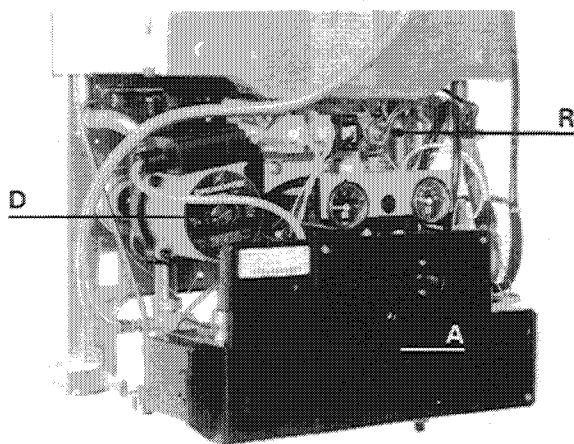
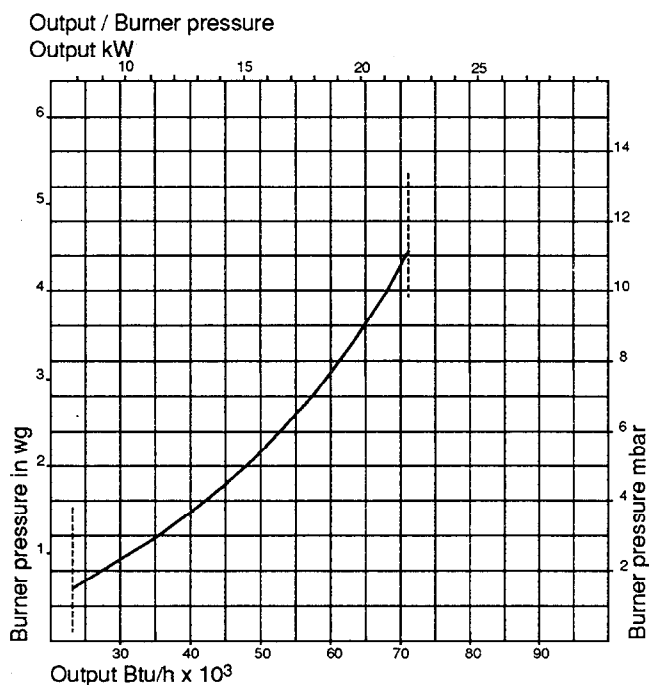

Fig. 35
Fig. 37
- 8) Manually check pump is free to rotate. Remove cap (fig. 35 D).
- 9) Switch to HOT WATER + CENTRAL HEATING on selector switch (A) (fig. 35) switch position (II).
- 11) Isolate water supply and drain boiler by disconnecting fill system and opening the drain valve (F). This is incorporated in the safety valve and is achieved by screwing down the head until the valve lifts. Open all low level drain cocks.
- 12) Remove filter in the return isolating valve (C) and inspect for any installation debris (see section 7.5), to clean and replace.
- 1) Switch boiler to the off (O) central position, see section 6.3 (fig. 35).
- 2) Remove the pressure test point screw - (B) and connect a suitable pressure gauge.
- 3) Remove the hexagonal cap from gas rate adjuster exposing the adjusting screw (C).
- 4) Switch the boiler to hot water and central heating (II) and check that any fitted external controls are calling for heat.
- 5) Adjust. Setting pressures are given in graph figs. 37 and 38. The pressure will be reduced by clockwise movement of screw, increased by anticlockwise movement. Now select hot water only, adjust hot water regulator, see fig. 4 (20), to minimum and open the largest volume draw-off tap. The gas pressure should now be the maximum as indicated in Technical Data.
- 6) Switch boiler off (O). Remove pressure gauge and replace test point screw and gas rate adjuster hexagon cap. Check for gas soundness around screw.